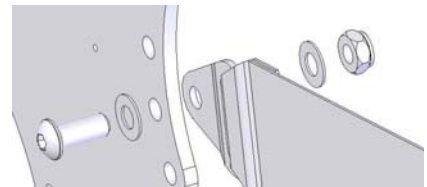
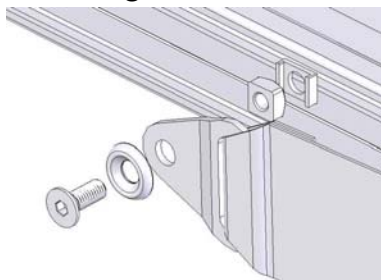

Figure 5-144
Figure 5-145
5.3.13.3 The pelvic belt can also be fixed at slot C to meet the user's needs. (Figure 5-144) In order to this replacement, the M8 Phillips Flat Round Head Screw and Nylon Insert Hex Nut have to be replaced by a M6 Phillips Flat Round Head Screw and a Square Nut. (Figure 5-14.3, Figure 5-145)